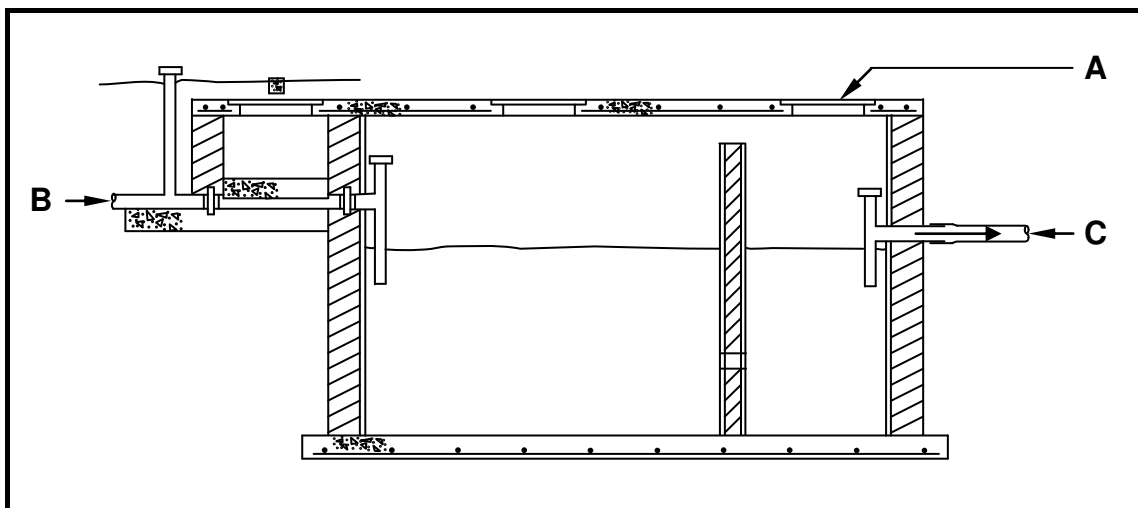

FIGURE 6.4
6.4 FIGURE 6.4 below is a drawing of a sewage system. Study the drawing and answer the questions that follow.
6.4.1 Name the sewage system in FIGURE 6.4. (1)